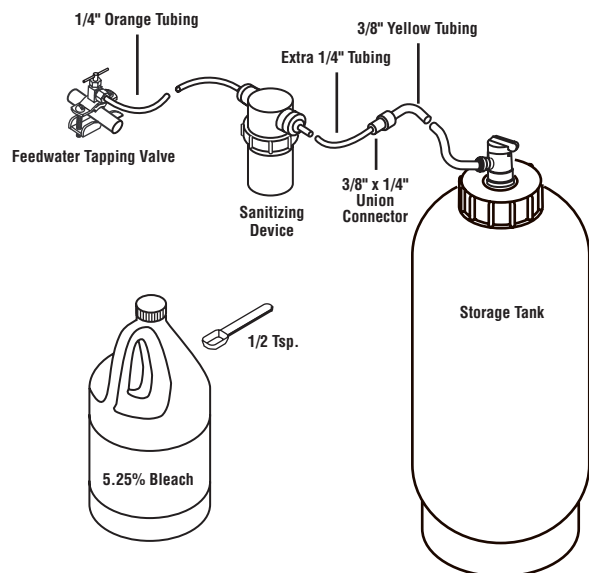

Fig. 9
- 3) Make sure that the feed water tapping valve is completely closed and disconnect the 1/4" orange feed water tubing from the purification assembly. Connect the end of the feed water tubing to the sanitizing device. Connect an extra length of 1/4" tubing to the other end of the sanitizing device. Using the 3/8" x 1/4" union connector, connect the 3/8" yellow tubing from the tank valve fitting to the extra piece of 1/4" tubing. (See Fig. 9)
- 5) Open the feed water tapping valve to force water and sanitizer into the storage tank. Allow about three (3) minutes to fill a standard 2.5 gallon tank. It should feel heavy when it is full.
- 8) Shut off the faucet and allow the storage tank to fill for at least six (6) hours. Drain the storage tank again and discard the water. The appliance should be ready to use as soon as the tank refills. If any objectionable taste is noticed, then drain the storage tank again and allow it to refill.